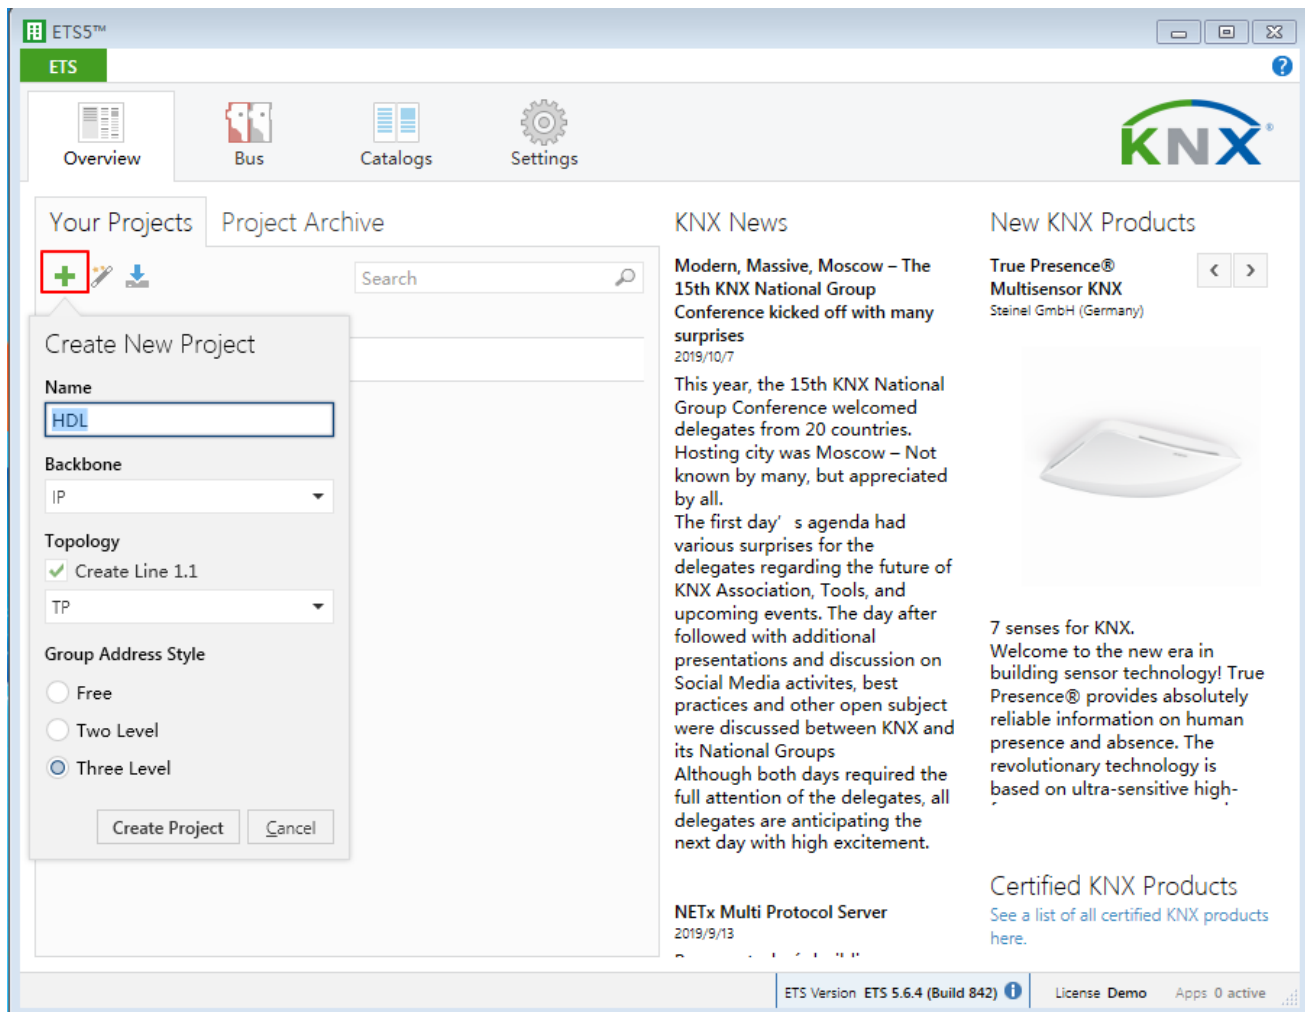

Figure 1-2 Create projects
2. **Create Projects:** as shown in Figure 1-2, in “Your Projects” tab from ETS5 software’s “Overview” page, click “+” to create projects. After editing project name, please keep other default setting items.